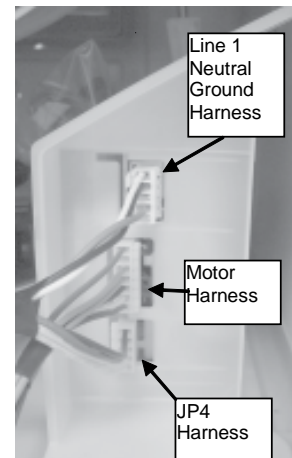

Figure 1–
- Check for 120 VAC at the motor control board harness. **See Figure 1.**